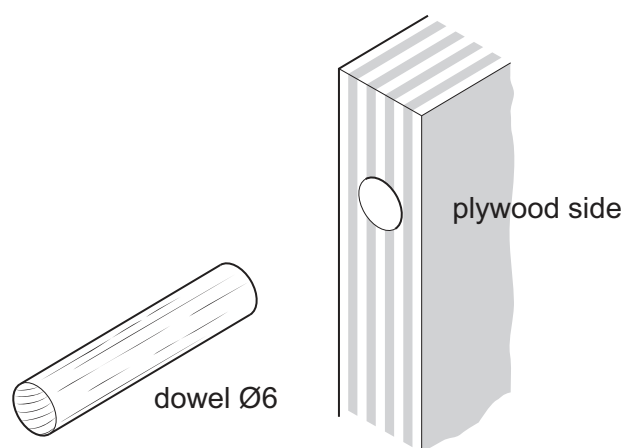

Fig. 11.2
- (c) Dowel joints are used to join the main parts of the toy bus. Fig. 11.2 shows a length of dowel that could be used.
Add sketches and notes to Fig. 11.2 to show how the dowel could be prepared so that: